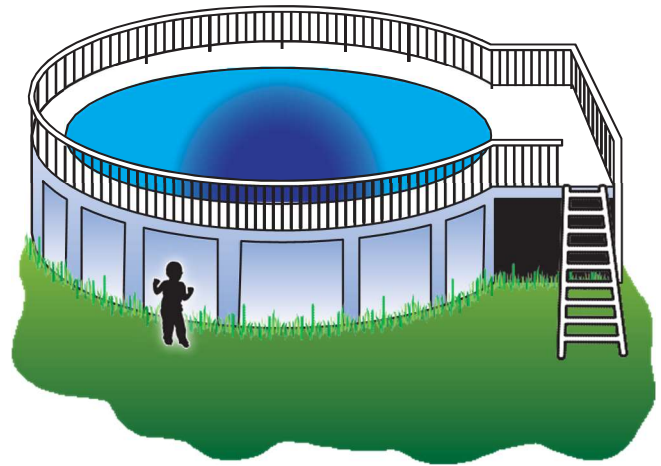

Figure 8a
- Where an above ground pool structure is used as a barrier or where the barrier is mounted on top of the pool structure, and the means of access is a ladder or steps (figure 8a), **then**